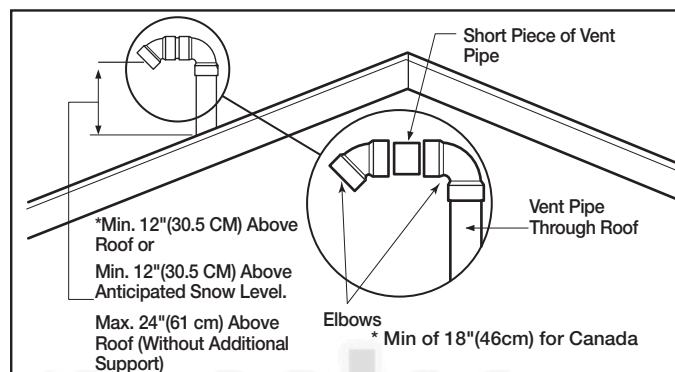

Figure 8 – Vertical Vent Terminal Location
Install adequate flashing where the vent pipe passes through the roof. Determine the vent terminal height and cut the vent pipe accordingly. Refer to Figure 8 for the proper vent terminal height. Connect the vent elbow onto the vertical pipe through the roof. Connect a short piece of vent pipe (approximately 3" (7.6 cm) long) to the elbow, and, then, join the vent terminal to the short piece of vent pipe.
**VERTICAL VENT TERMINAL LOCATION** – The location of the vertical vent terminal depends on the following considerations (see Figure 8):